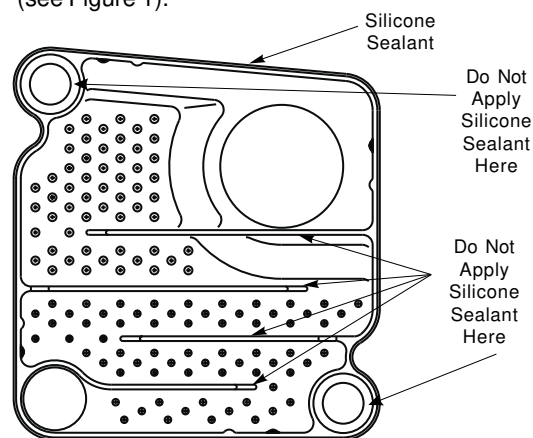

Figure 1
11. Apply bead of silicone sealant around perimeter of intermediate section, NOT on inside of waterway holes (see Figure 1).